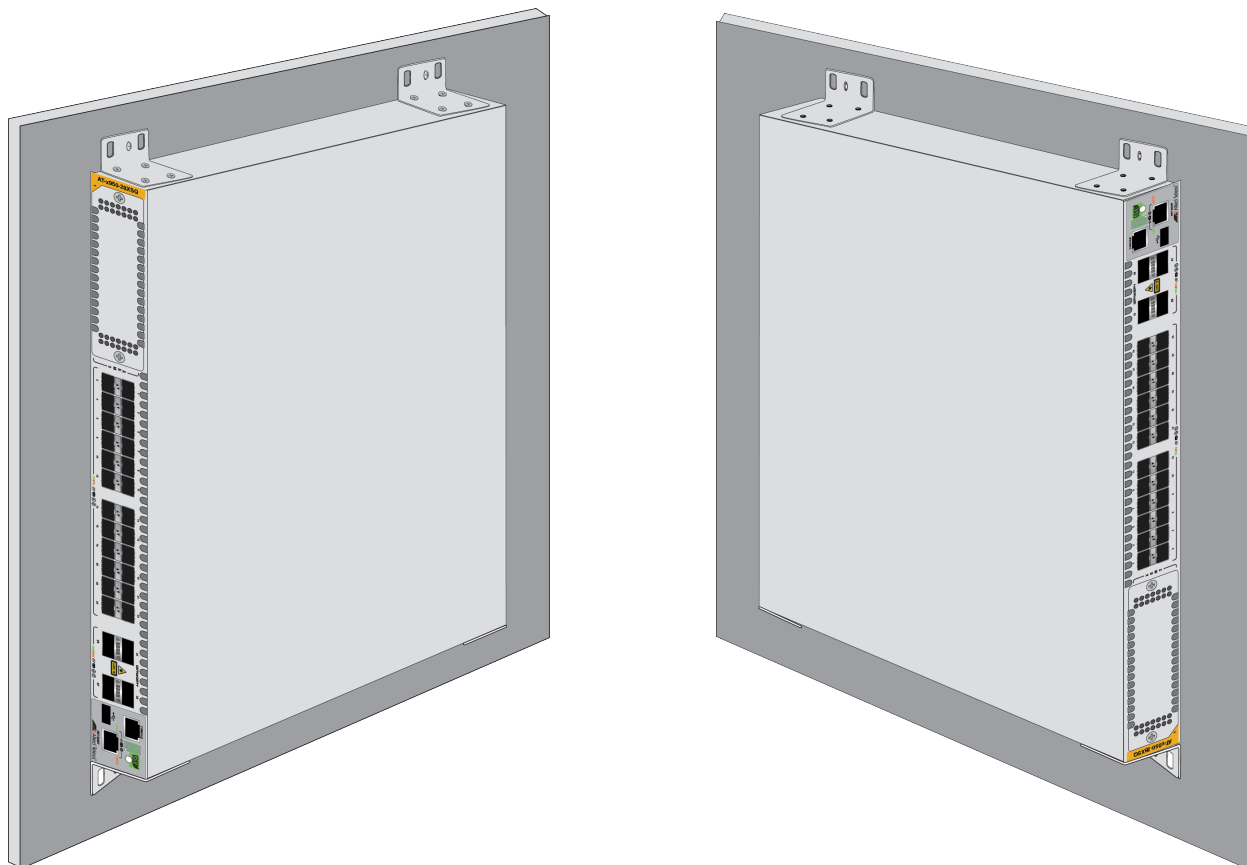

Figure 69. Positions of the Switch on the Wall
You can install the switch on a wall with the front panel on the left or right, as shown in Figure 69. Do not install it with the front panel on the top or bottom.
- Position the switch so that the front panel is either on the left or the right. Refer to Figure 69 on page 116. You may not install the switch with the front panel facing up or down.